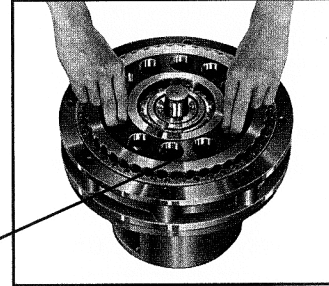

Fig. A-15
9. The eccentric (3-04) can be removed from the input shaft (3-01) after taking out the retaining ring (3-10) and the inner bearing raceway (Figs. A-15, A-16).
12. Follow these steps to remove the slow speed shaft (1-01) with its bearings from the casing (26): (a) Remove the horizontal oil seal housing (25). (b) With a wooden or hard rubber mallet, rap the inner end of the slow speed shaft to expose the retaining ring\* from the outer raceway of the bearing. (c) Remove the retaining ring. (d) Rap the outer end of the slow speed shaft with a wooden or hard rubber mallet, and remove it from the casing.
13. The high speed shaft (3-01) with bearings is removed from the high speed shaft end shield (8) by tapping the shaft end after first taking off the retaining ring (3-11).
5. Insert the other spacer and the inner bearing raceway. Secure them with the retaining ring (Fig. A-15).